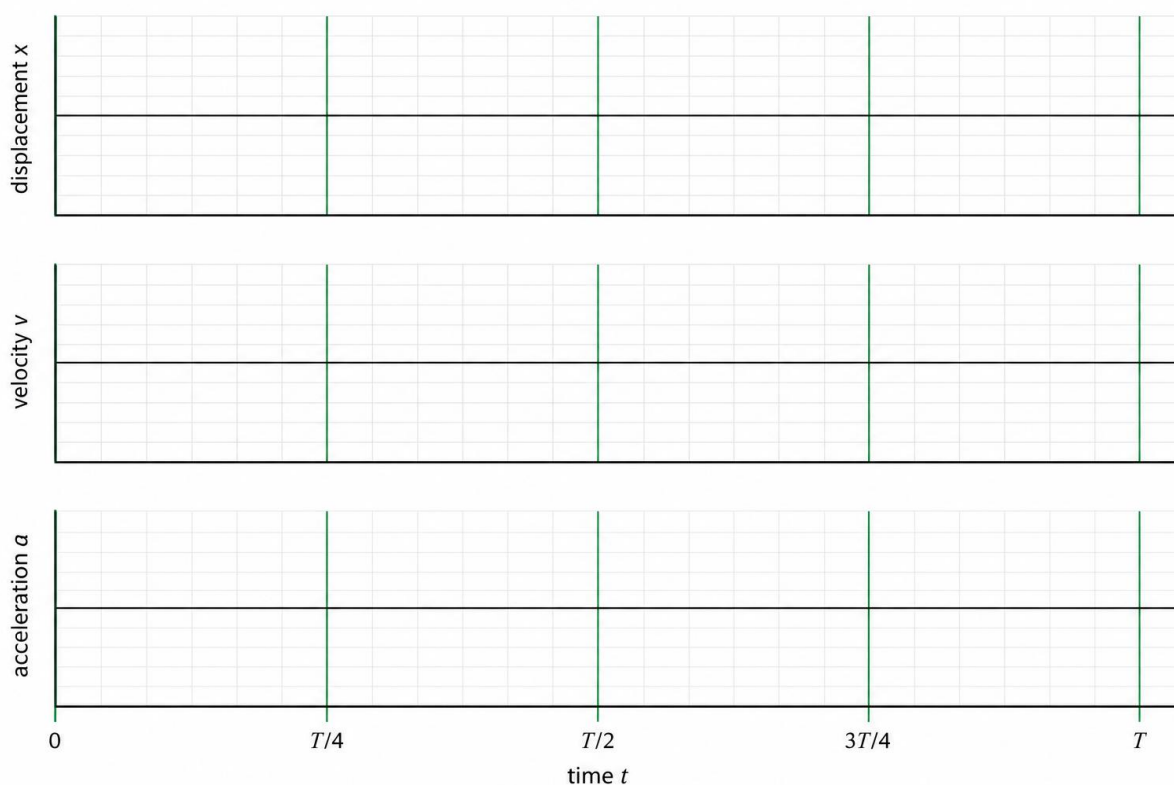

Figure 4: draw the three quantities over the same complete cycle
10. On Figure 4, draw displacement x , velocity v and acceleration a against time for one complete cycle. The piston begins at $x = +A$ at $t = 0$. Show the correct zero crossings and label the positive and negative extrema of all three quantities. [6 marks]
11. Use your graphs in Figure 4. (a) State x , v and a at $t = T/4$. (b) State the time offset between corresponding extrema of displacement and velocity. (c) State the phase relationship between displacement and acceleration. [3 marks]